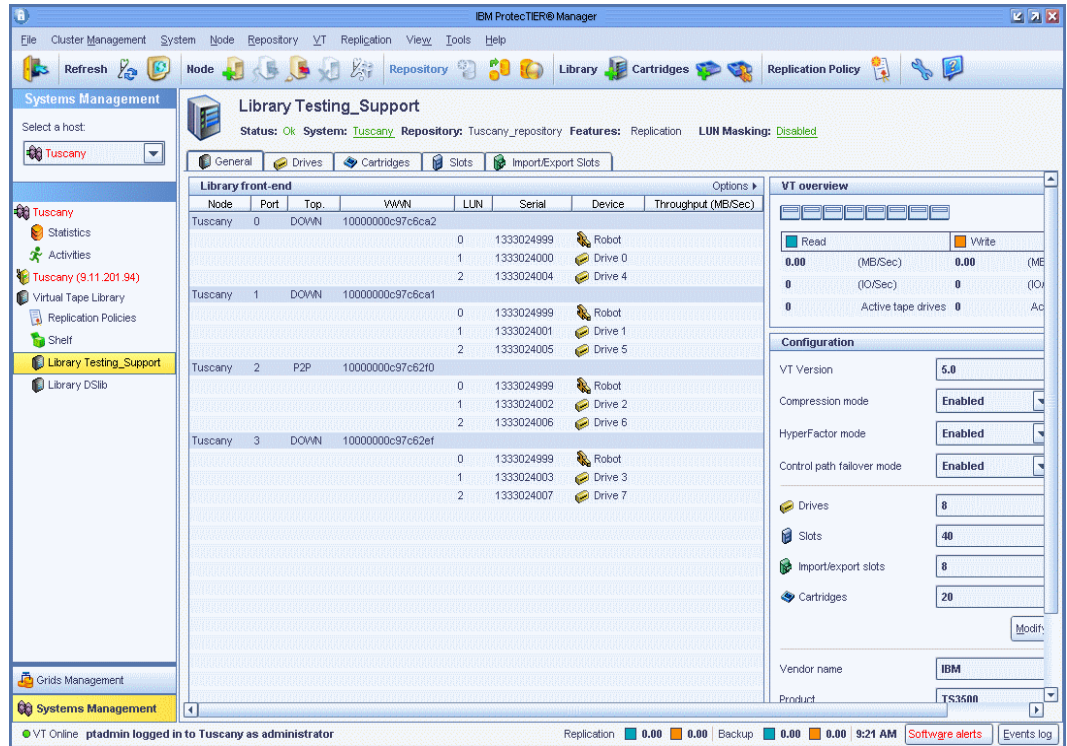

Figure 10-52 Delete library
1. In the Services pane, select a library (Figure 10-52).